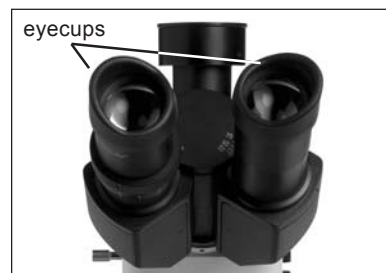

Figure 28
16. The rubber eyecups can be mounted to the eyepieces (figure 28) in order to prevent stray light from entering and therefore providing a higher contrast image. Eyeglass wearers who choose to wear their glasses during microscope use should remove the eyecups in order to maintain proper eyepoint positioning to the eyepiece. You will want to be careful not to make contact between the eyepiece lenses and your eyeglasses to protect the delicate optical coatings though.